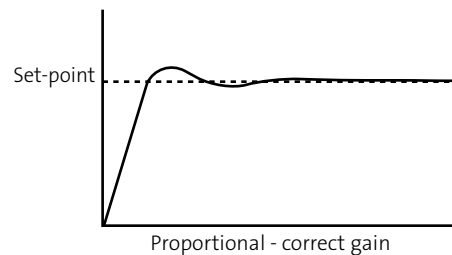

Figure 4: correct gain
4. Tune the loop with the I-gain parameter (P208) to get the feedback level exactly equal to the set-point. The integral gain is used to eliminate the error between feedback and set-point. This parameter changes the time-constant of the level and the response will be slower for small increases of P208. It will continue to increase the output speed command based on the accumulated error over time (or decrease the speed in the event of a negative error). Small amounts of integral gain can have a significant effect on the set-point controller's performance. If set too high the system will overshoot too far above the set-point, especially when large step changes occur in the error. Refer to Figure 4 for the correct response curve.